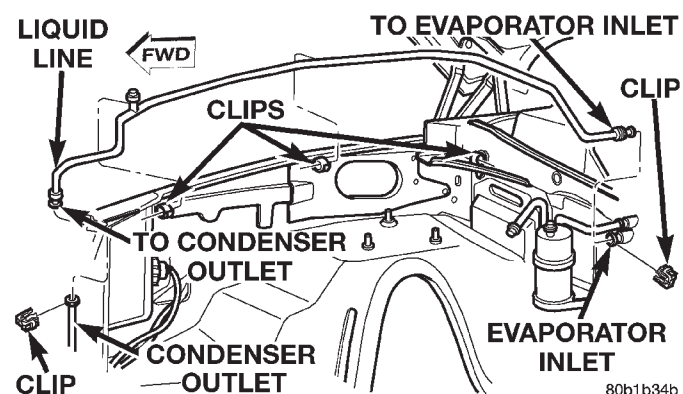

Fig. 32 Liquid Line Remove/Install
(1) Disconnect and isolate the battery negative cable.
(2) Recover the refrigerant from the refrigerant system. See Refrigerant Recovery in the Service Procedures section of this group.
(3) Disconnect the liquid line refrigerant line couplers at the condenser outlet and the evaporator inlet. See Refrigerant Line Coupler in the Removal and Installation section of this group for the procedures. Install plugs in, or tape over all of the opened refrigerant line fittings.
(4) Disengage any clips that secure the liquid line to the inner fender shield and the dash panel (Fig. 32).